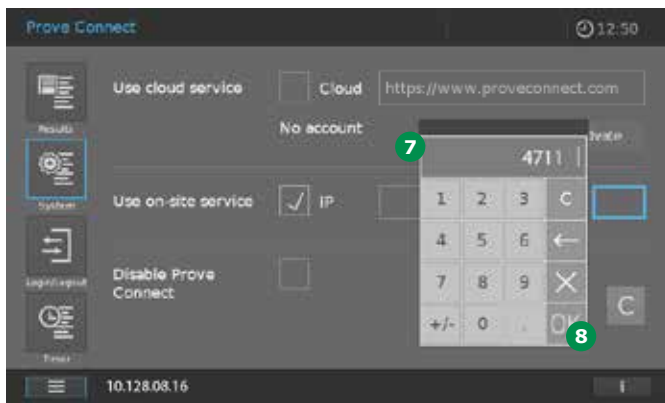

Figure 21 - Screen of Spectroquant® Prove / Prove plus (Figure 17) with entered Port of the PC on which Prove Connect runs
7. Open the field: Port (text box with the blue border). The entry field appears 7 (Figure 21).
9. Confirm the entered Port with "OK" 8 (Figure 21).